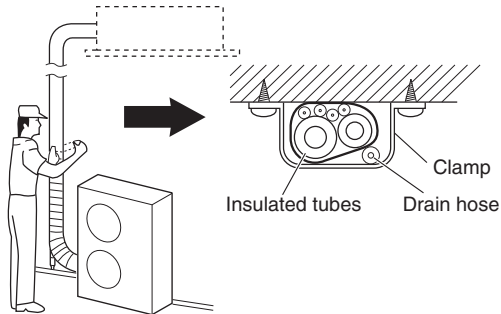

Fig. 5-10
- (1) At this time, the refrigerant tubes (and electrical wiring if local codes permit) should be taped together with armoring tape in 1 bundle. To prevent condensation from overflowing the drain pan, keep the drain hose separate from the refrigerant tubing.
- (2) Wrap the armoring tape from the bottom of the outdoor unit to the top of the tubing where it enters the wall. As you wrap the tubing, overlap half of each previous tape turn.
- (3) Clamp the tubing bundle to the wall, using 1 clamp approx. each meter. (Fig. 5-10)